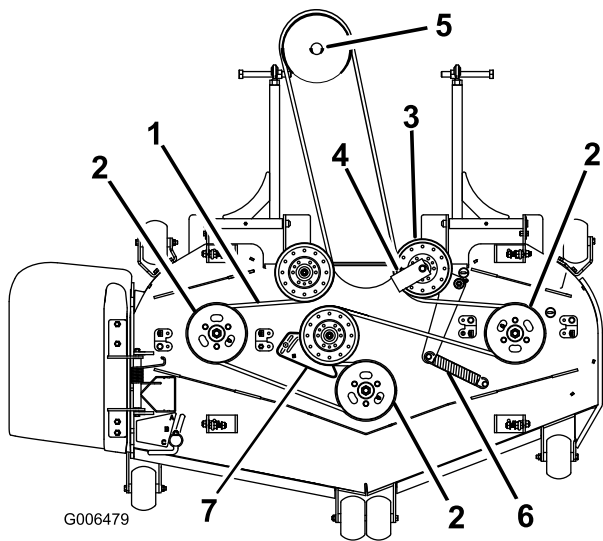

Figure 75
6. Remove the belt guide on the spring-loaded idler pulley shown in Figure 75 and Figure 77.
8. Install the new belt around the mower pulleys and the gearbox pulley under the engine (Figure 75).
9. Install the belt guide on the spring-loaded idler at a 45 degree angle as shown in Figure 75 and Figure 77. Torque the bolt to 37 to 45 N·m (27 to 33 ft-lb).
10. Install the idler spring to the 2 posts (Figure 75 and Figure 77).